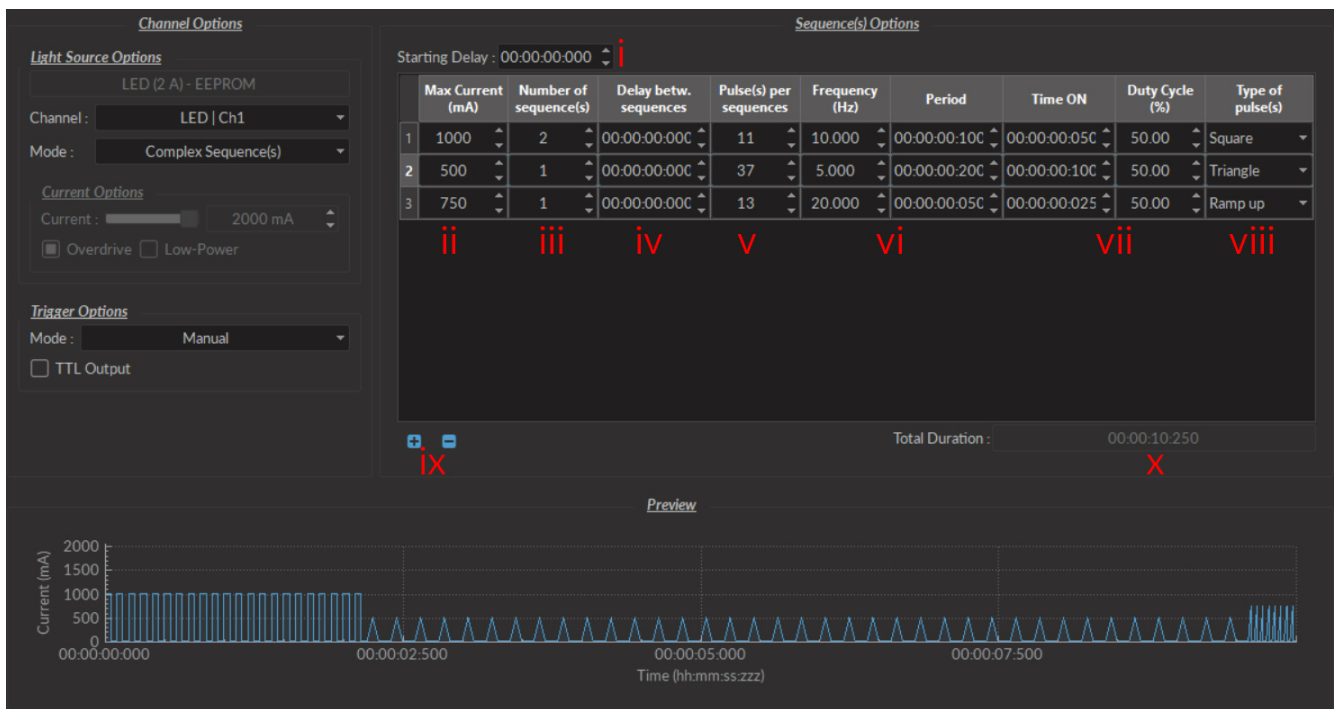
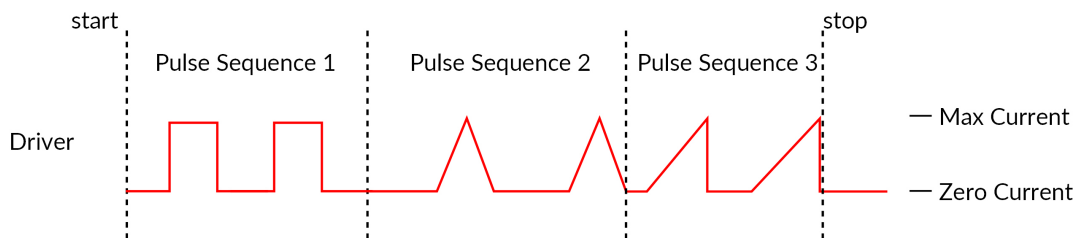

Figure 4.9: Complex Sequences Window
Figure 4.10: Internal Complex Mode Pulse Sequences
- i. The **Starting Delay** (Fig. 4.9) sets the delay (in hh:mm:ss:zzz format) before the first pulse sequence.
- ii. The **Max Current** (Fig. 4.9) sets the maximum current (in mA) for the given sequence.
- iii. The **Number of sequences** (Fig. 4.9) sets the number of times that the sequence will be repeated, with a minimum of 1.
- iv. The **Pulses per sequence** (Fig. 4.9) sets the number of pulses per sequence, with a minimum of 1.
- v. The **Delay between sequences** (Fig. 4.9) sets the delay (in hh:mm:ss:zzz format) between each sequence if the **Number of Sequences** is greater than 1.
- vi. The **Frequency/Period** (Fig. 4.9) sets the frequency (in Hz) or period (in ms) for the pulse sequence. These two values are linked, and when one is changed the other will adjust automatically. For example, a signal at 10 Hz (frequency) will output one pulse every 100 ms (period), whereas a pulse sequence at 0.5 Hz (frequency) will output one pulse every 2000 ms (period).
- vii. The **Time ON/Duty Cycle** (Fig. 4.9) sets the time (in ms) or the duty cycle (in %) for each pulse. These two values are linked, and when one is changed the other will adjust automatically. The **Time ON** must be lower than  $(1/\text{frequency})+0.005$  ms, while the **Duty cycle** must be below 100 %.
- viii. The **Types of pulses** (Fig. 4.9) sets the pulse type. Pulses can be **Square**, triangular (**Triangle**), **Ramp up** **Ramp down** or **Delay** (Fig. 4.10). The **Delay** pulse type is used to create a delay between different sequence
- ix. The **Sequence controls** (Fig. 4.9) allow the addition (+) or removal (-) of sequences to the spreadsheet.
- x. The **Total Duration** (Fig. 4.9) displays the total time of the experiment. The different values can be *Inf* for infinite, a valid time value or *Err* if the **Time ON** value is greater than 1/frequency.